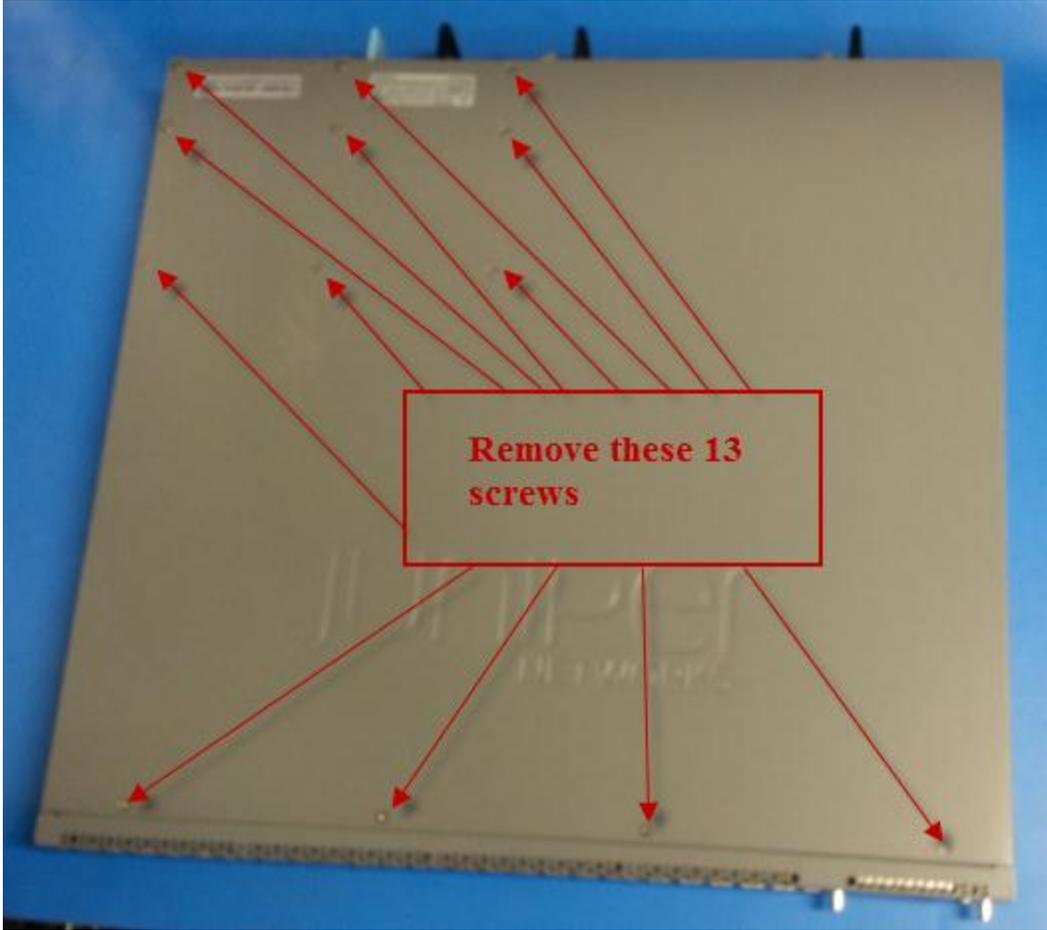

Figure 3-1: Top side screws
1. Remove the thirteen screws from the top of the system (figure 3-1)